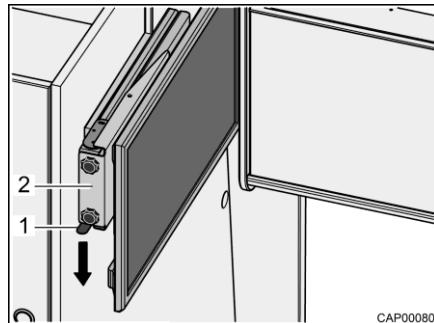

Fig. 34 Pull-out with flat screen
- Press catch spring (Fig. 34,1) downwards and pull pull-out (Fig. 34,2) with flat screen out horizontally towards the centre of the vehicle.
- Push the pull-out (Fig. 34,2) with flat screen horizontally as far as it will go. The catch spring (Fig. 34,1) engages audibly.